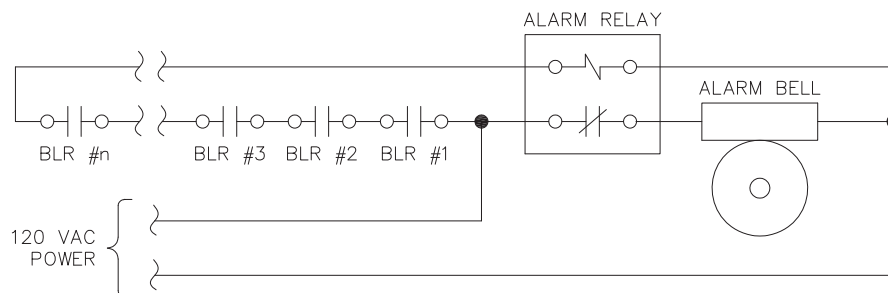

Figure 8.31: Alarm Wiring for Common Venting
- l. **Alarm Mode:** The alarm mode allows the installing contractor to set the menu to the mode appropriate for the installation. The default setting is “Stand Alone” in which the alarm contacts (Terminals #31 & #32) simply close if an alarm condition exists. Figure 8.31 shows the proper wiring arrangement for the “Common Vent” alarm mode. In this configuration, the alarm will sound if a boiler loses power.